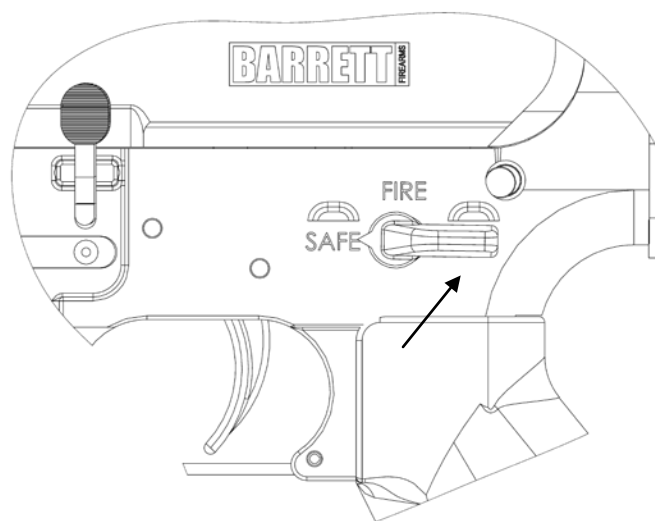

Figure 17
5. Place the selector switch on SAFE. Press the upper portion of the bolt catch to allow the bolt assembly to close. (Figure 17). Repeat steps 3-5 to ensure rifle is unloaded and cleared.